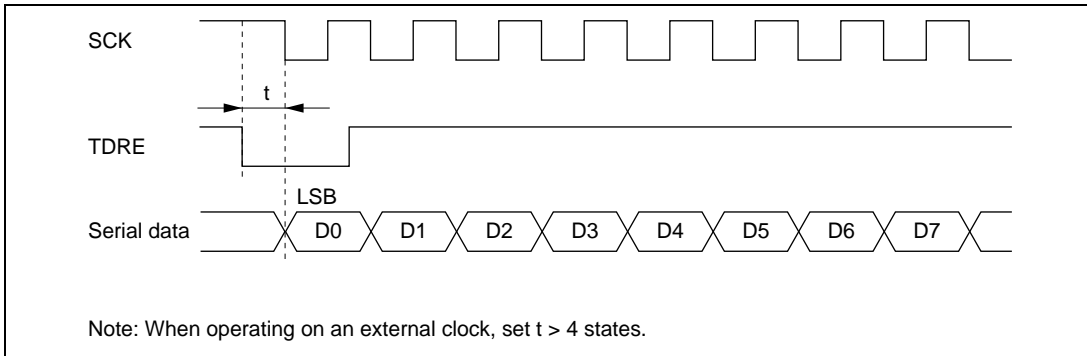

Figure 15.24 Example of Synchronous Transmission by DTC
- When an external clock source is used as the serial clock, the transmit clock should not be input until at least 5 ϕ clock cycles after TDR is updated by the DTC. Misoperation may occur if the transmit clock is input within 4 clock cycles after TDR is updated. (Figure 15.24)